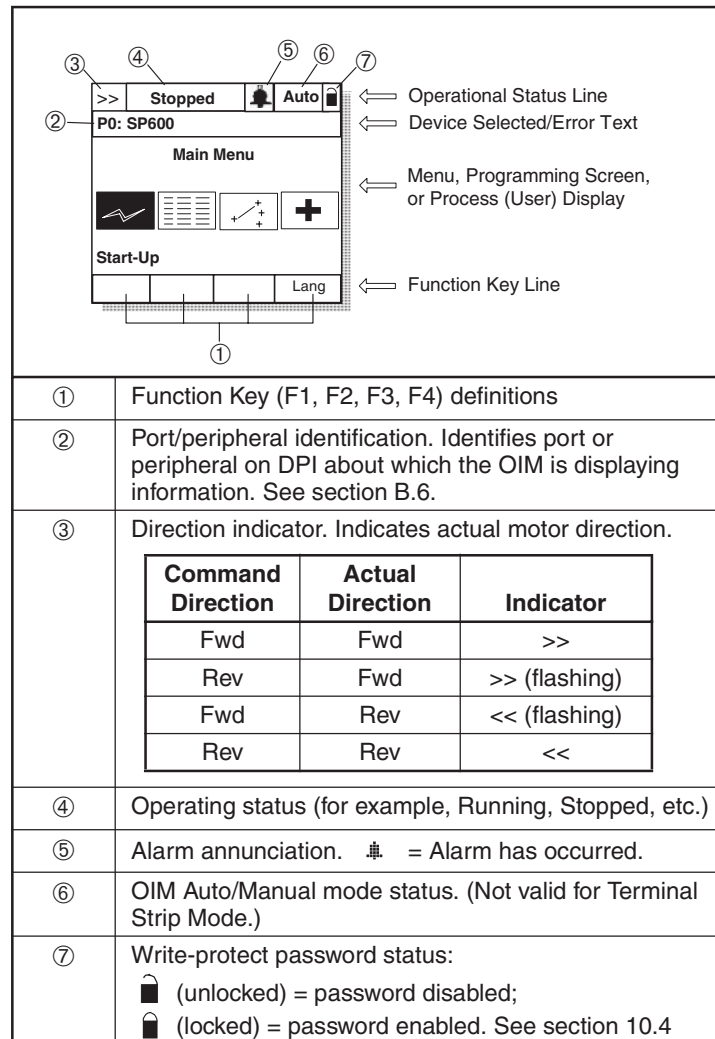

Figure B.3 – The Display (Main Menu Shown)
F1 though F4: Predefined or user-configured functions. The definition of each key is shown directly above the key on the display. See item ① in figure B.3.
The name and DPI port number of the device being accessed is shown on the OIM's display (see figure B.3).